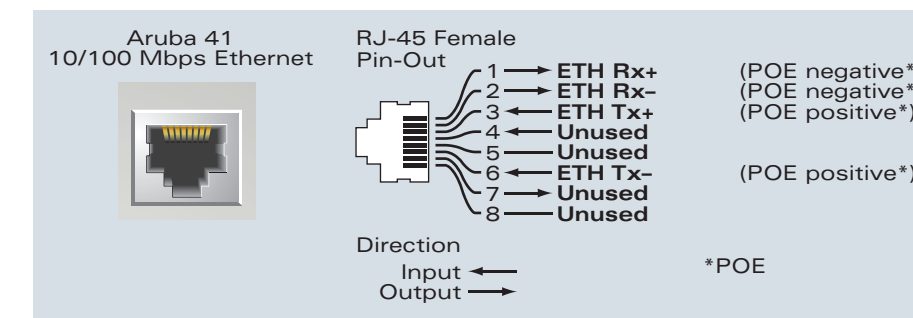

Figure 0-2: Aruba 65 FE Port
The 10/100 Mbps Ethernet (FE) port is located on the right-hand side of the Aruba 65 and has an RJ-45 female connector. The port pin-outs are shown in Figure 0-2: